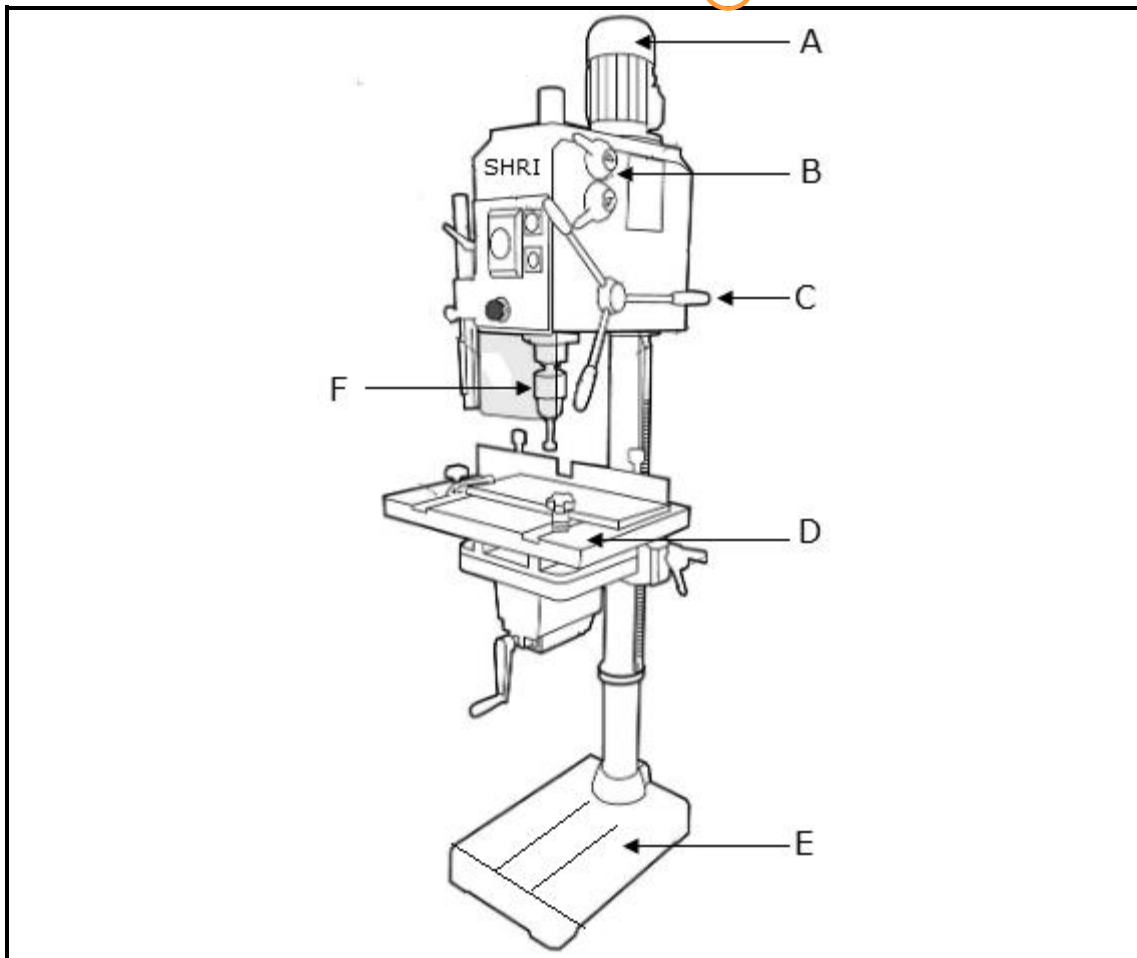

FIGURE 2
2.1 FIGURE 2 shows a sensitive drilling machine.